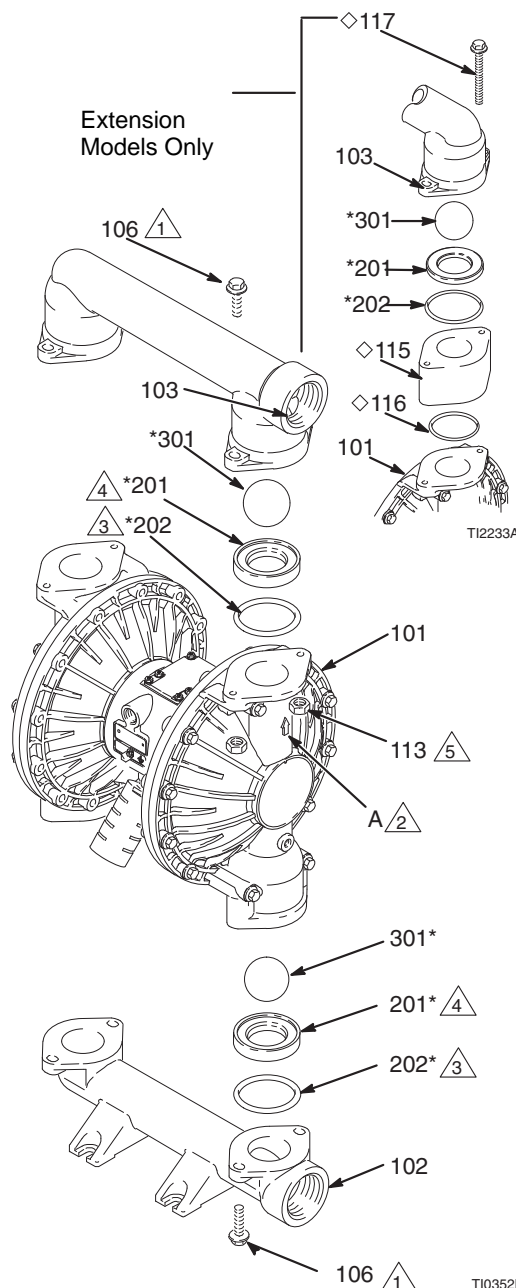

FIG. 10
3. Using a 10 mm socket wrench, remove the four bolts (106) holding the outlet manifold (103) to the fluid covers (101). See Fig. 10.
4. Remove the seats (201), balls (301), and o-rings (202) from the manifold.
2. Reassemble in the reverse order, following all notes in FIG. 10. Be sure the ball checks are assembled **exactly** as shown. The arrows (A) on the fluid covers (101) **must** point toward the outlet manifold (103).